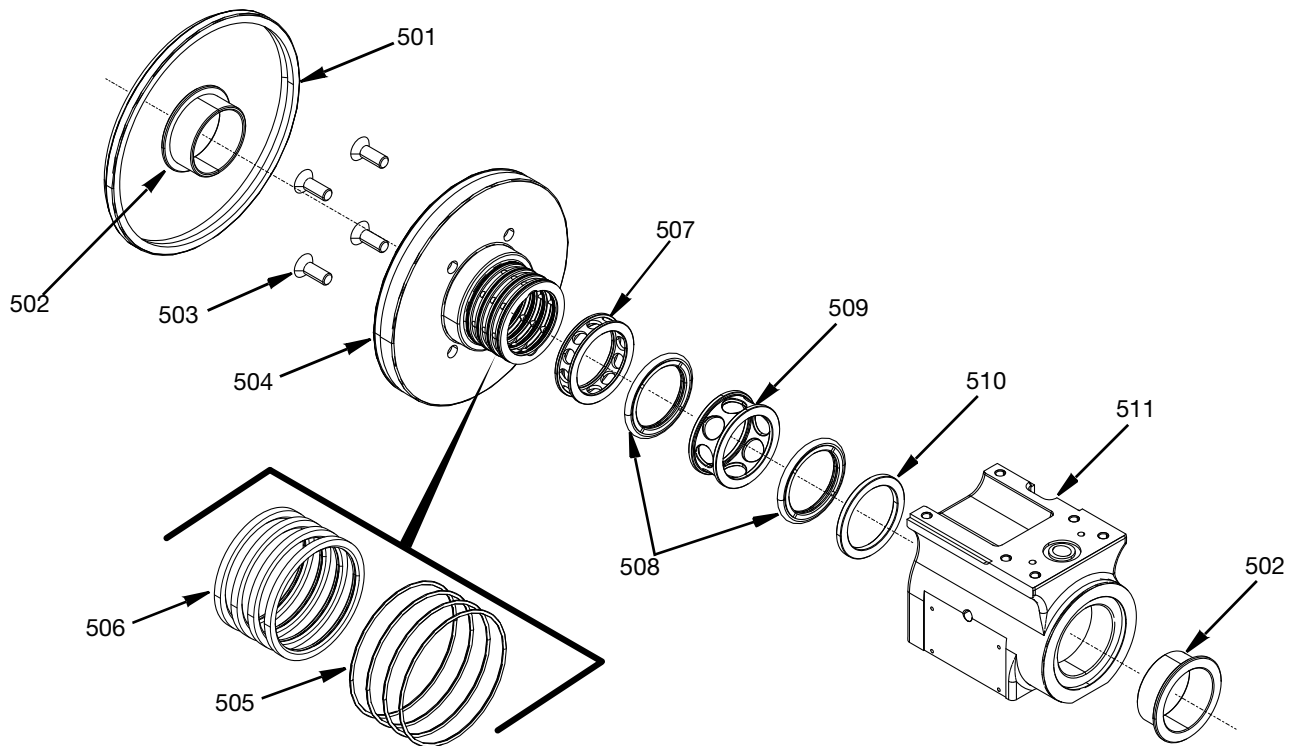
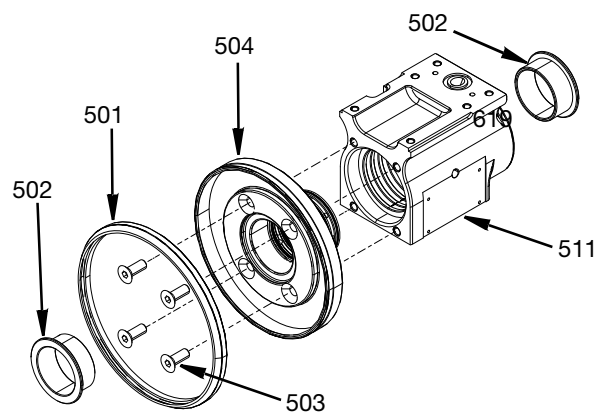

FIG. 20
FIG. 25
1. Dust seal ring (501) can be removed from the air distribution ring bearing (504)
2. Remove flange bearings (502) and discard.
3. Remove M6 flathead screws (503) with a hex key wrench and remove the air distribution ring bearing (504).
4. Remove the four O-rings (505) and four air seals (506) from the air distribution ring bearing (504) and discard.
5. Tap the internal components (507-510) out of the swivel housing assembly (511). It is recommended to use seal installation /removal tool 17V972 and a soft face mallet to tap the internal components from the swivel housing.
6. Discard the rotary seals (508). See FIG. 20 on page 20.
**NOTE:** For general sequence of swivel housing assembly refer to FIG. 20.
1. Insert support ring (510) into the larger bore end of the swivel housing assembly (511) until the support ring is square against the internal shoulder.
2. Apply a thin coat of lithium grease onto the outside of the O-ring on the rotary seal (508). To prevent damage to the Rotary seal O-ring insert into the bore of the swivel housing (511) at an angle. Make sure that the O-ring does not tear against the inlet opening and push the rotary seal against the support ring (510). See side view FIG. 25.
3. Insert material distributor ring (509) into the bore of the swivel housing (511). It is recommended to use the **Material Seal Insertion/Removal Tool, 17V972** on page No. 38 and a soft faced mallet. Push the material distribution ring (509) and rotary seal (508) fully to the bottom of the bore.
4. Apply a thin coat of lithium grease onto the outside of the next O-ring on the rotary seal (508). To prevent damage to the Rotary seal O-ring insert into the bore of the swivel housing (511) at an angle. Make sure that the O-ring does not tear against the weepage port and push the rotary seal against the material support ring (509). See top view FIG. 25.
7. Apply a thin coat of lithium grease to the O-rings (505) and insert into the bore of the swivel housing (511). Apply anti seize to M6 flathead socket screws (503) and thread in finger tight. See FIG. 25.
8. Push one flange bearing (502) into the swivel housing (511), and one flange bearing (502) into the air distribution ring bearing (504). See FIG. 25.
9. Install dust seal ring (501) around the outside surface of the air distribution ring bearing (504). See FIG. 25.